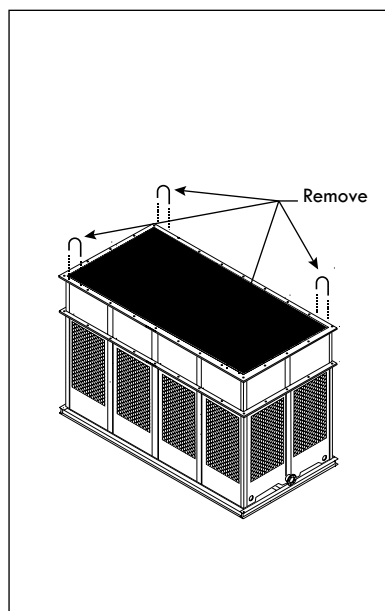
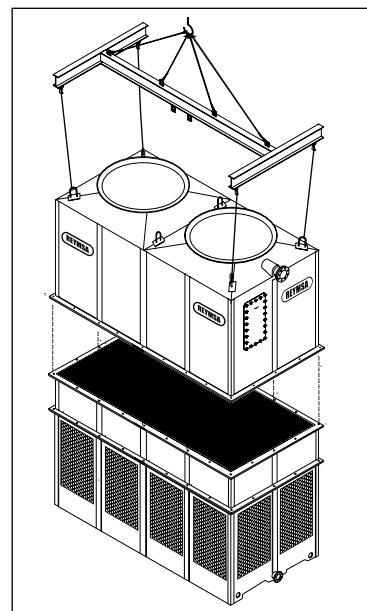

Figure A-59: Removing U-bolts from Lower Body section of a Modular Tower (RTM-D or RTPM-D)
Figure A-60: Upper body section assemble for a Modular Tower (RTM-D or RTPM-D)
- L. **Only for RTM-D or RTPM-D models:** Remove U-bolts from Lower Body section before installing the next section (see Figure A-59). Place Upper Body section #1 on top of Lower Body section #1, making sure that the bolt holes are aligned (see Figure A-60). Bolt down and secure the horizontal flanges with the stainless steel nut and bolt sets supplied by REYMSA.